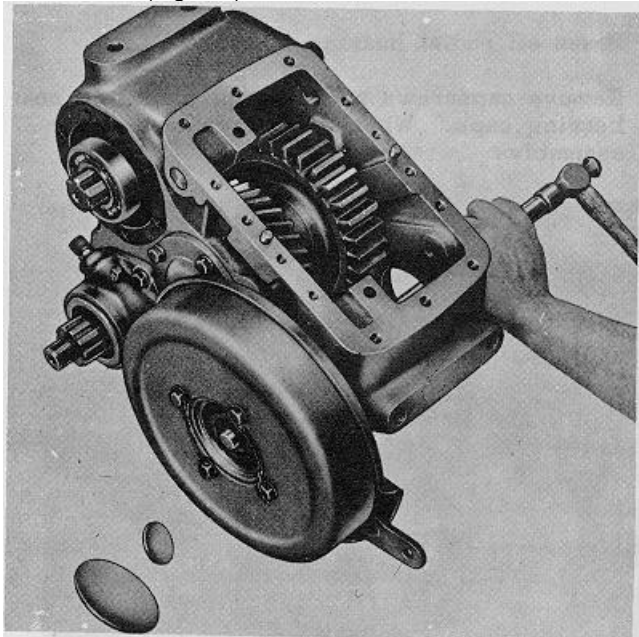

Fig. 7.
11. Slide a bar through front output shaft gear and tap out small and large expansion plugs located in brake section (Fig. 7).